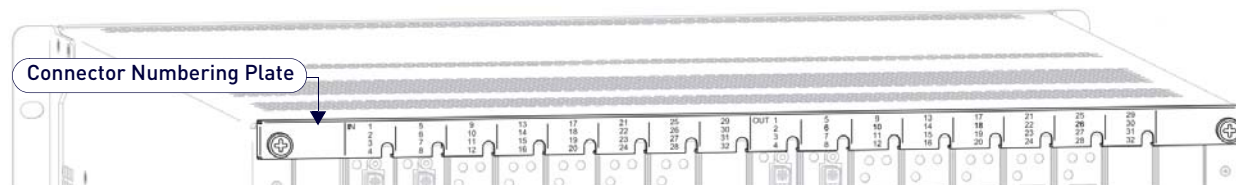

FIG. 17 Connector Numbering Plate [DGX 3200]
1. **Enova DGX 3200 only** – Loosen the two captive screws that hold the Connector Numbering Plate at the top of the connectors (FIG. 17). Remove the Connector Numbering Plate and set aside.